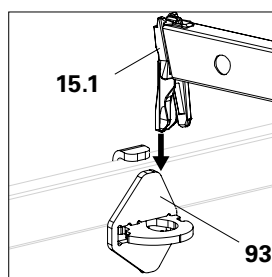

Fig. A11.06g
4. Hook the ledger (15a) from above into the Ledger to Ledger Coupler UHA (93). (Fig. A11.06g)